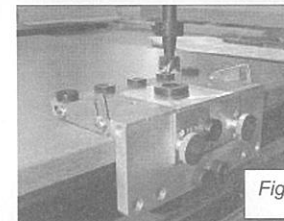

Fig.16
- 5.5. Now drill the vertical hole with the appropriately adjusted stop ring (fig. 16).